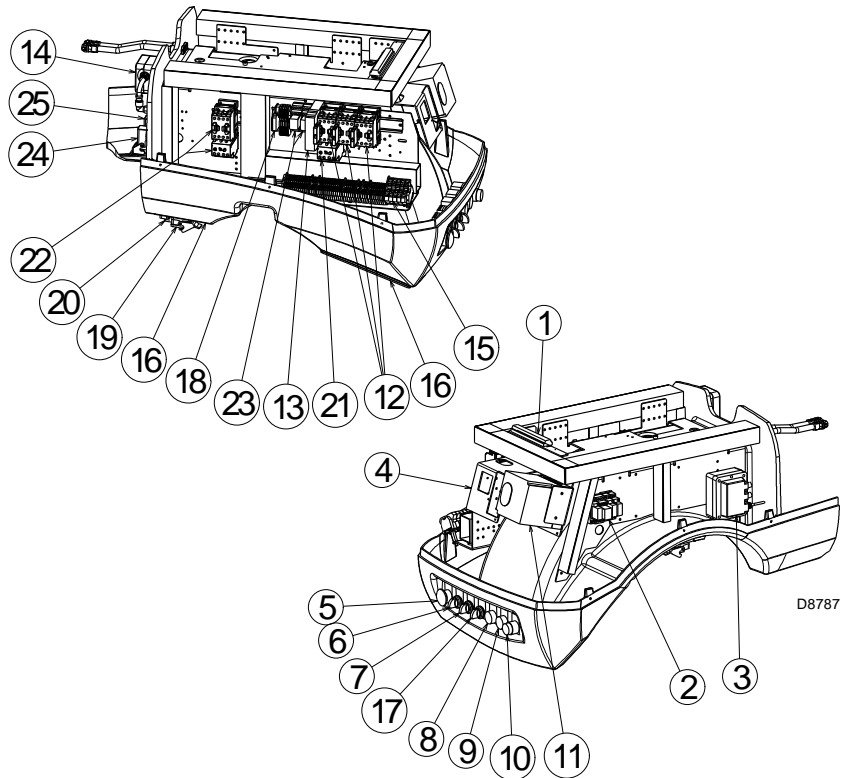

Fig. 5
- **Control box lock-out:** if the control box 11) (Fig. 5) push-button (red led) and the reset button 10) (Fig. 5) light up, it indicates that the burner is in lock-out. To reset, press the pushbutton 10) (Fig. 5).